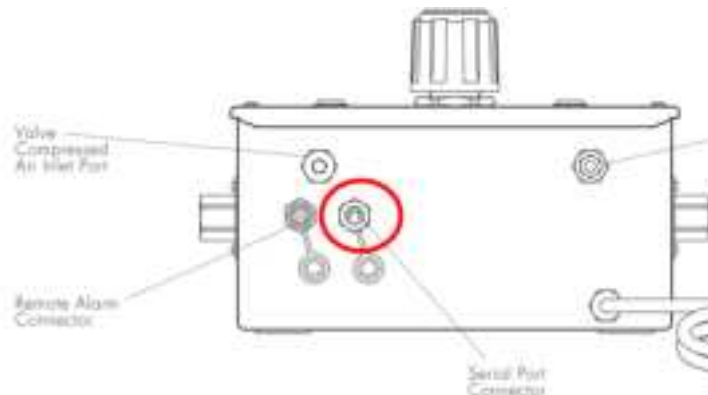

Figure 1 Bottom view of the gas management system. Serial port is circled in red.
8. Locate the Serial port on the asset (shown in Figure 1) to which the Element-D will connect. The circular port connector is located on the bottom of the asset.